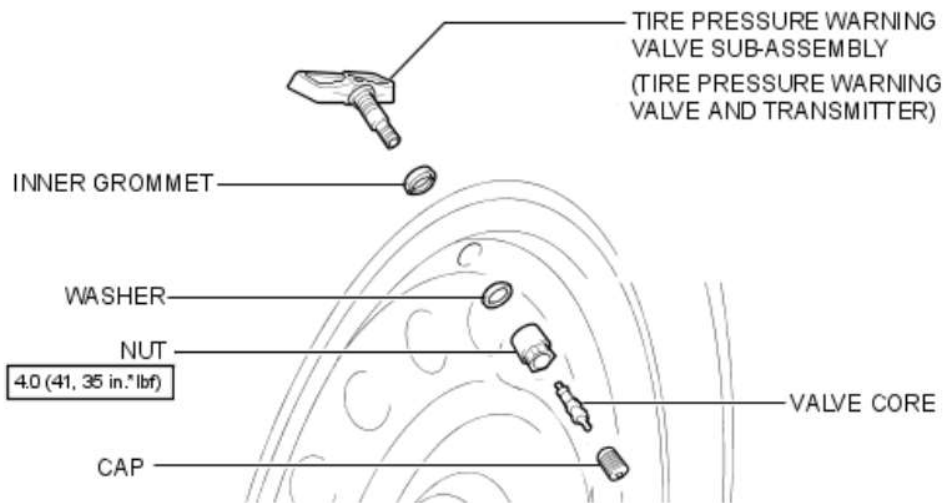

Fig. 5: Exploded View Of Tire Pressure Monitor Valve Sub-Assembly
2. Remove wheel. Remove the cap and valve core, and release air from the tire. See **Fig. 5**.